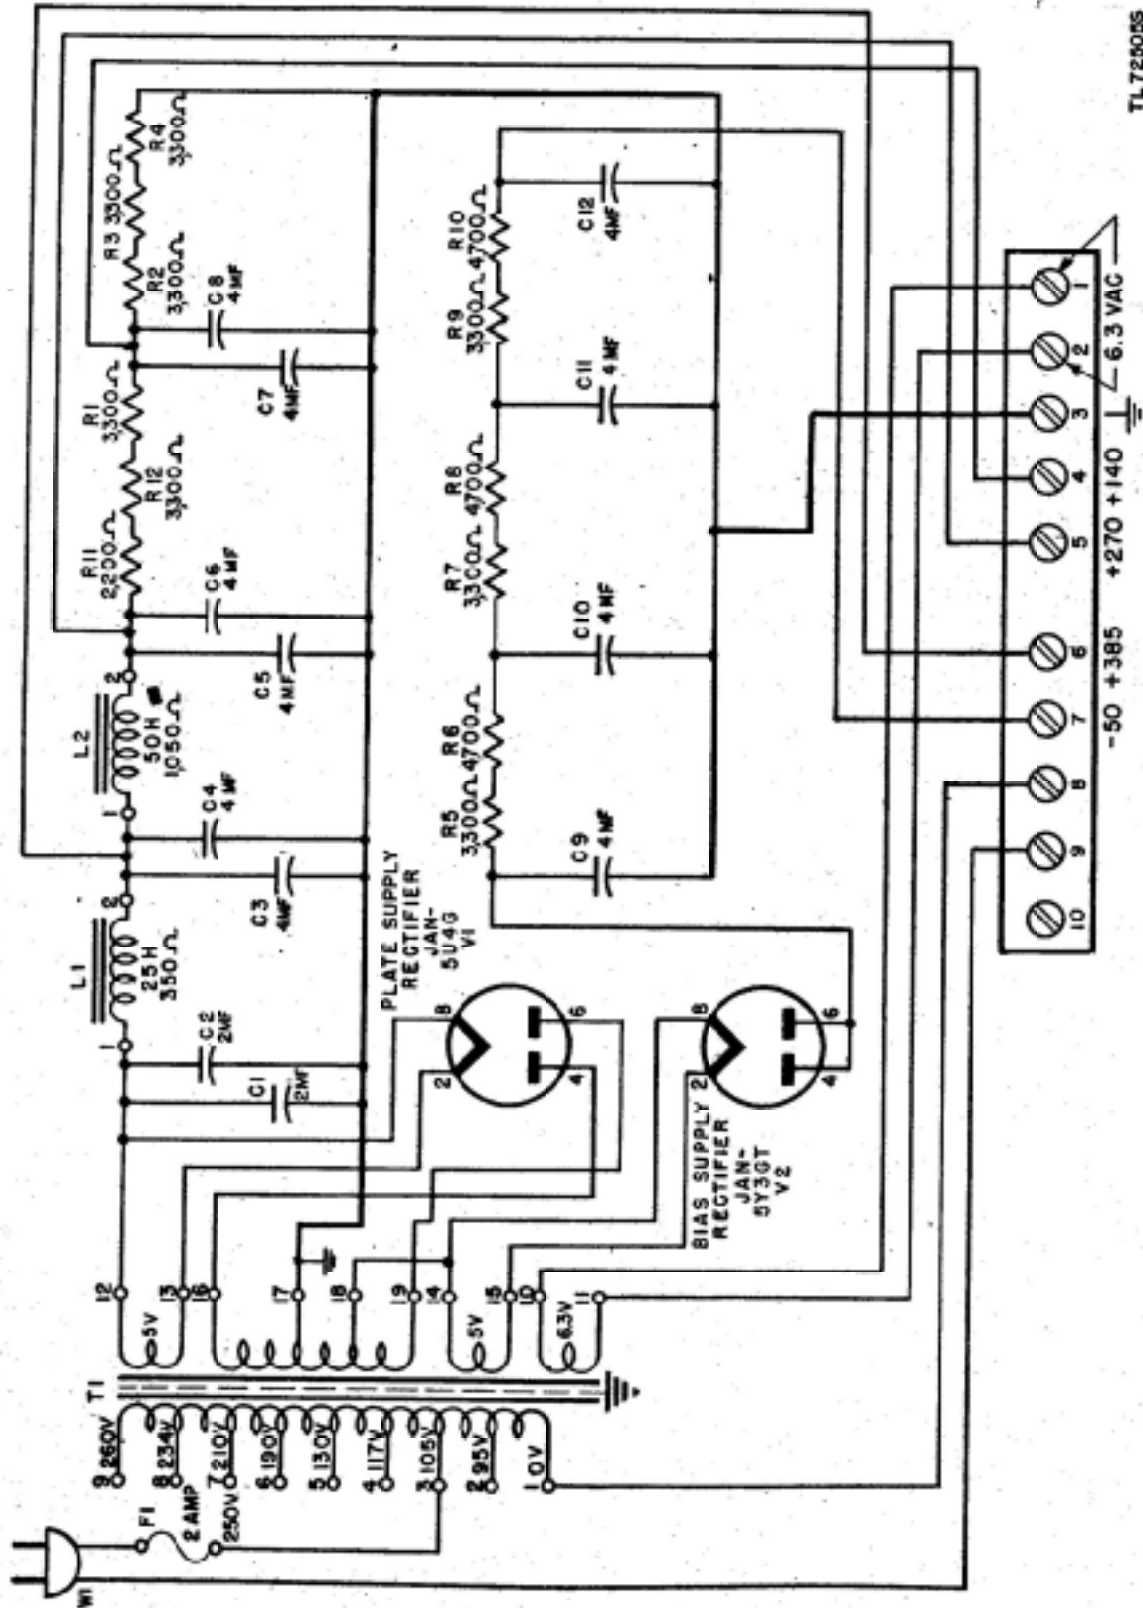

Figure 50.1 (Added.) Power Supply Unit RA-74-D, schematic diagram.
Power Supply Units RA-74-B, -C, RA-84-(*), and RA-94-A are electrically alike except for variations in power transformers T1, T2, and T3 (figs. 50, 51, and 52). The output of * * * input requirements vary. Power Supply Unit RA-74-D is electrically similar to Power Supply Units RA-74-B and RA-74-C except for the following: types of tubes used, d-c resistance of L2, number and values of resistors, value of plate supply filter input capacitor, values of bias filter capacitors, reference symbols, and transformer wiring connections (fig. 50.1). Also, the physical location of the resistors and capacitors in Power Supply Unit RA-74-D with serial numbers 1 through 390, Order No. 12618-Phila-47, is not the same as their location in Power Supply Unit RA-74-D with serial numbers 391 through 791, Order No. 6036-Phila.-48.
a. Power transformer T1 (fig. 50.1) is connected to the power source by line cord W1 and is fused by 2-ampere, 250-volt fuse F1. Terminals 8 and 9 of terminal strip E1 are connected when the receiver ON-OFF switch is closed, thus completing the primary circuit of the transformer. The average power consumed is 180 watts.